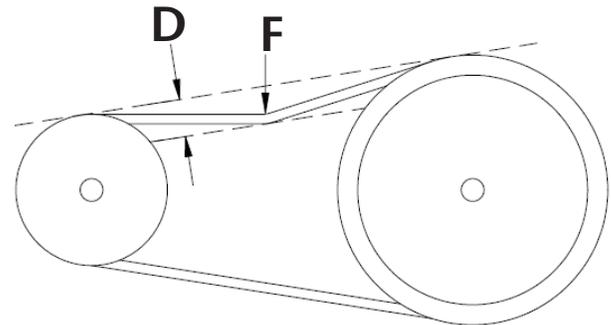

Fig. 6-1 Tension Check
- Turn the two belt tensioning adjustment rods on the side of the mounting frame to tighten the belt until the proper tension is obtained (see Fig. 6-1). To check for correct sheave alignment, place a straight edge on the faces of the two sheaves. Proper alignment is obtained when all the gaps between the straight edge and the sheaves are minimized and less than 1/8". Re-tighten the four motor mounting bolts.